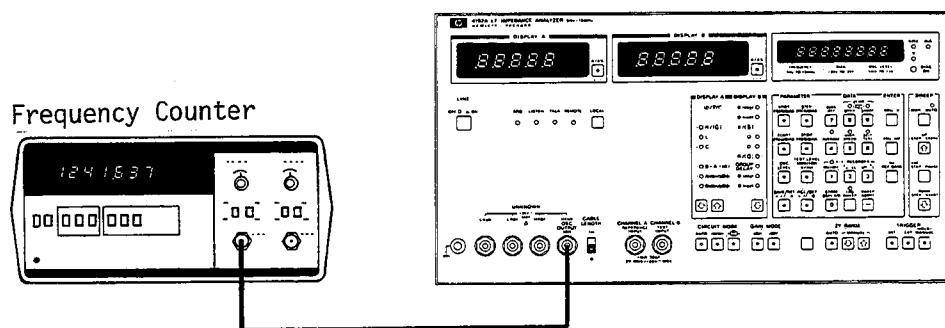

Figure 4-1. Measurement Signal Frequency Accuracy Test Setup
- a. Connect the input of the 5314A to the OSC OUTPUT ( $H_{CUR}$ ) terminal of the 4192A as shown in Figure 4-1.